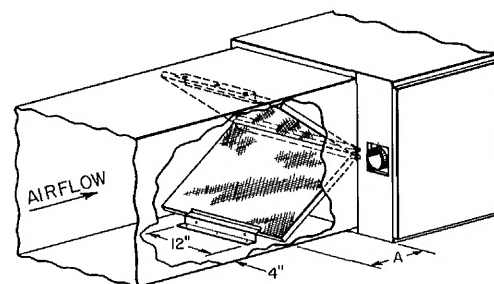
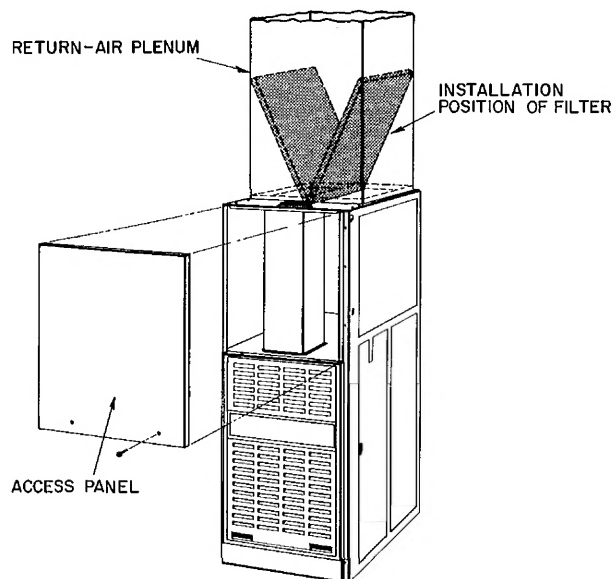

Fig. 10 — Horizontal Filter Arrangement
Fig. 11 — Downflow Filter Arrangement
FURNACE CASING WIDTH	DIM. A (Fig. 10)
- c. Install filter retainer kit (field supplied) before connecting return air duct to furnace. See Fig. 10 and Table 5. See note below.
V-formation inside return air plenum. See Fig. 10 and Table 5 for horizontal applications. See Fig. 11 for downflow applications.